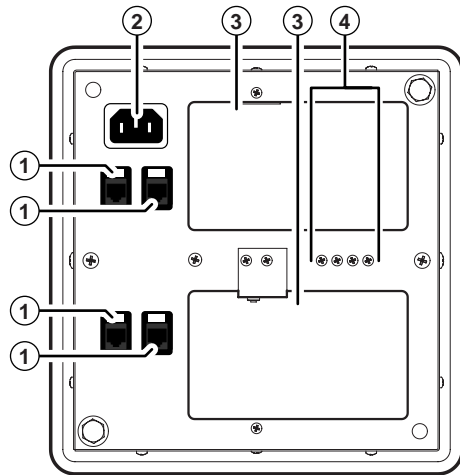
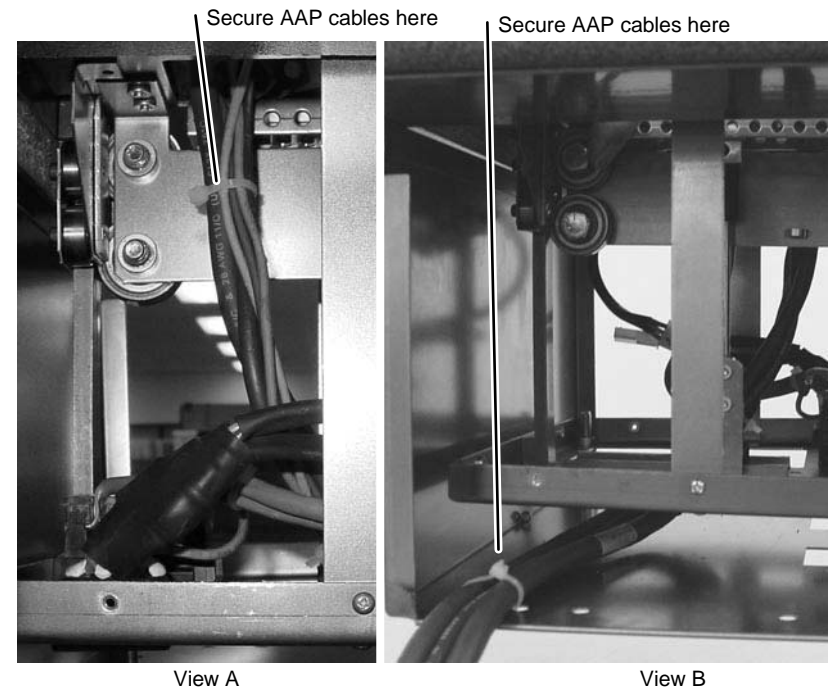

Figure 2-6 — HSA 800 and HSA 802 enclosure underside connectors
Figure 2-10 — HSA 802 AAP cable routing
2. Experiment with AAP cable positioning to ensure that the cables do not rub against the edges of the AAP cable hole (Figure 2-6, ③) and to ensure that the cable pull does not restrict the movement of the top panel. Figure 2-10 shows the cables routed to the side, which proved effective in tests at Extron.